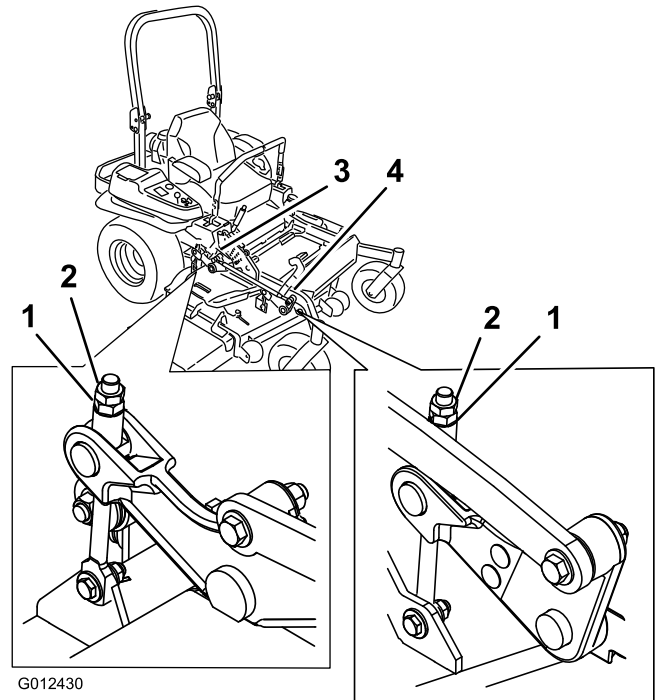

Figure 90
- 10. Fine-tune the adjustment nut on the front deck lift assembly by turning it (Figure 90).
16. Fine-tune the adjustment nut on the front deck lift assembly by turning it (Figure 90).